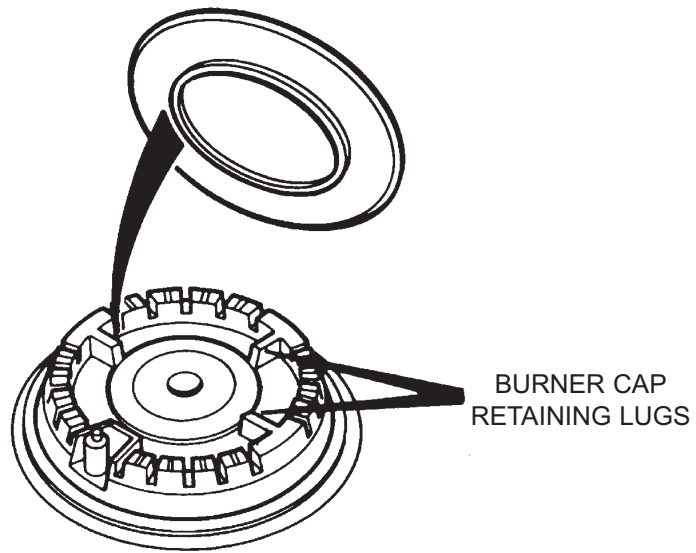

Fig 3A
- After cleaning, be sure all parts are dry. When fitting the burner cap and burner head, make sure that the hole in the burner head is correctly located over the ignition electrode (See Fig. 3a, 3b, 3c), and that the burner cap is sitting correctly on the burner head.